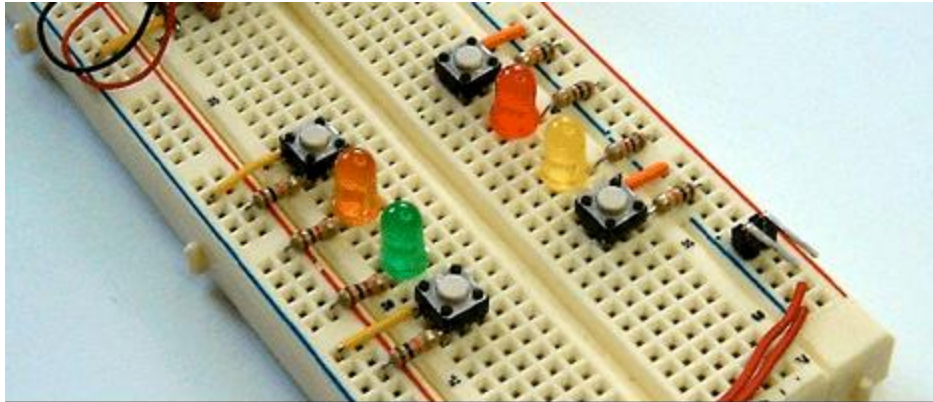

Figure 6. Adding the buttons.
1. Insert four buttons into the board, as shown in Figure 6. The button for the yellow LED should go in holes I51 and I53; the button for red LED should go in holes I40 and I42; the button for the orange LED should go in holes B40 and B42; and the button for the green LED should go in holes B51 and B53.